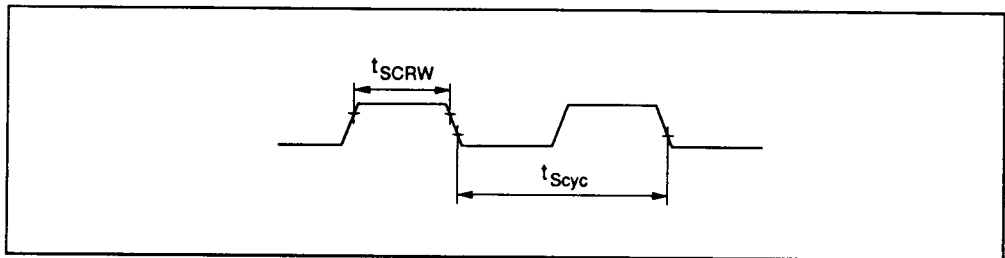

Figure 21-16 SCI Input Clock Timing
21.3.8 SCI Timing	Figures 21-16 and 21-17